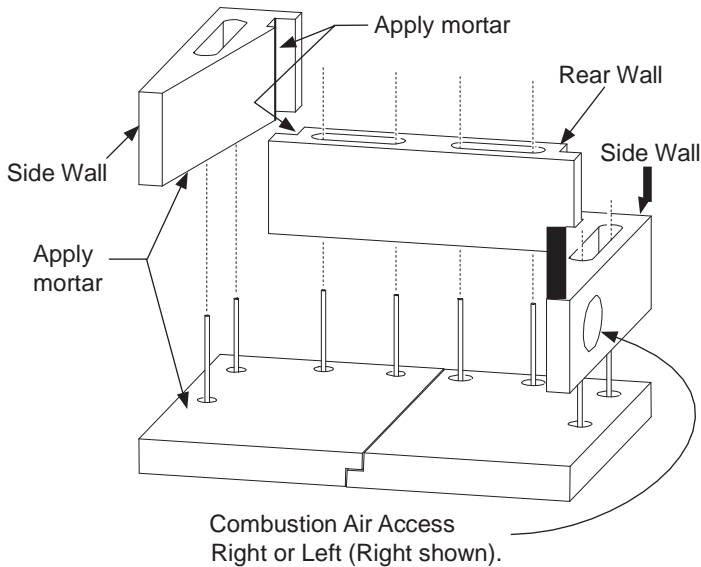

Figure 38 - Layering walls and sides for MM33,39,44,49
6) Assemble the first layer as shown in Figure 38 and 39. Continue to the next layer sides and rear pieces, keeping components moist, mixing mortar as you need it and threading the mortar appropriately as you stack each section, one onto the next. Constantly check for squareness and levelness while building each course of block. As you complete each piece, make certain that you adhere the mortar at each and every joint. See chart below for the number of layers for need for this step.